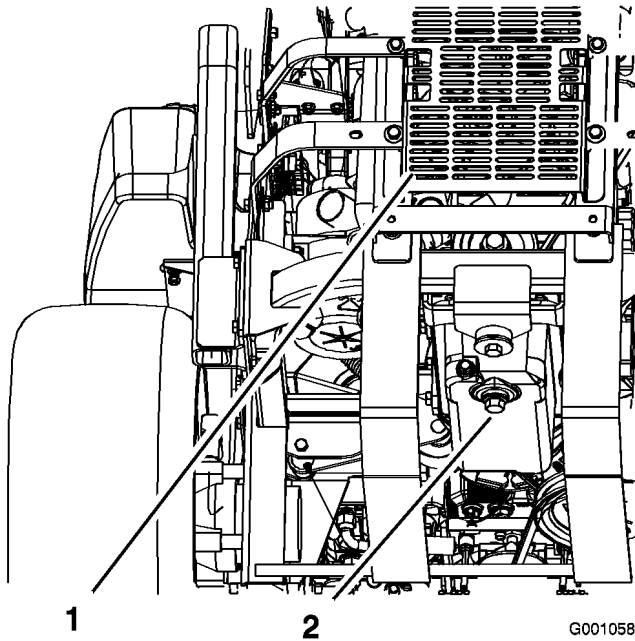

Figure 37
5. Place a pan below the oil drain. Remove the drain plug and let the oil drain completely (Figure 37).